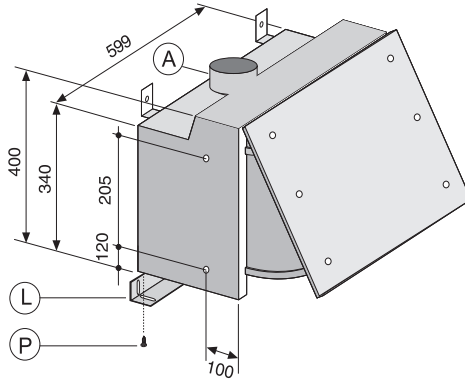

Fig. 1
- Drill 2 holes of 2,5 mm diameter on the side of the hanging cupboards as shown in fig. 1 considering also the thickness of the front panel, so that the hood remains at the same level of the side hanging cupboards.
- Close the space, which eventually remains between the hood and the wall adjusting the spacer (L) by acting on the appropriate screws (P) (fig. 1).
- Fix the hood to the spacer through the screws (P) (fig. 1).